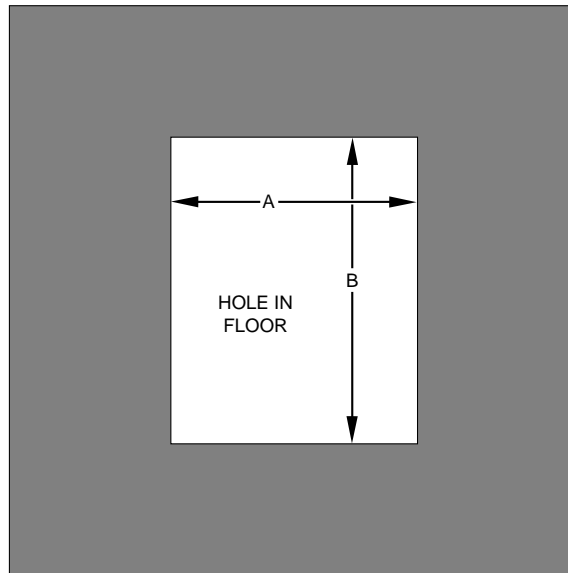

Fig. 4—Floor Opening for Concrete Slab
1. Construct hole in floor per dimensions in Fig. 4 and Table 3.